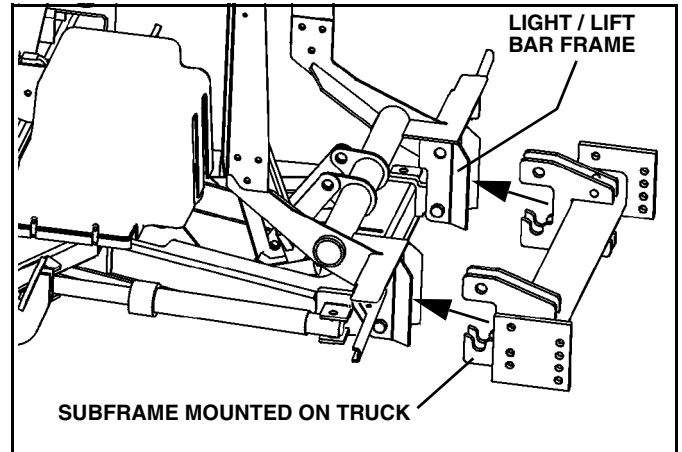

Figure 1-8
1. Drive truck into plow. Align light/lift bar frame outside of subframe lugs. Pins should fit inside slots cut into subframe lugs. (See Figure 1-8).